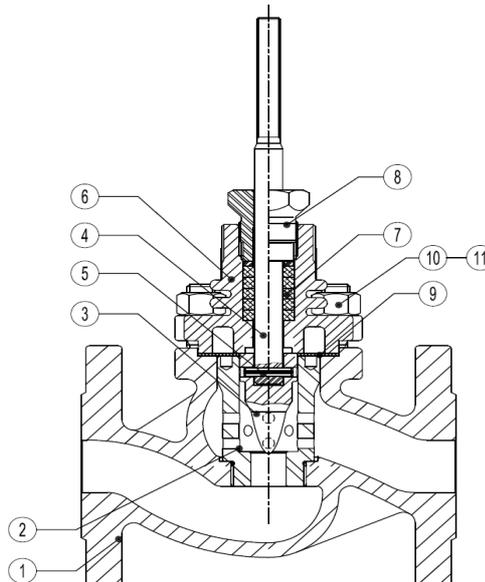

Fig. 5 – VPC-25
- Screw off the threaded bushing (3).
- Replace the body gasket (4) (see fig. 5) after cleaning its housing face carefully.